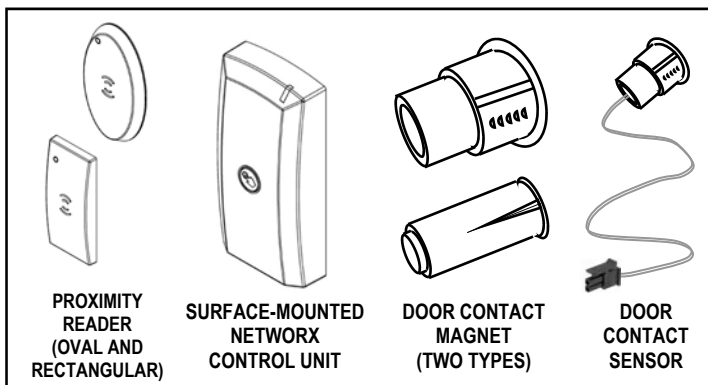
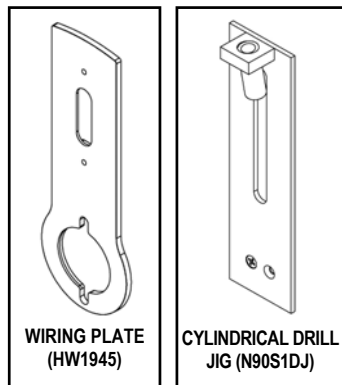

FIG. 1: PARTS OVERVIEW (NOT TO SCALE)
FIG. 2: PARTS OVERVIEW
For reference, the images in Fig. 1 and Fig. 2 display each component (not to scale). Two types of **Proximity Readers** are available: **Oval** and **Rectangular**. The **Surface-Mounted Networkx Control Unit**, two versions of the **Door Contact Magnet** (3/8" or 3/4" diameter) and the **Door Contact Sen-**
- The **Surface-Mounted Networkx Control Unit** (see Fig. 1) is always mounted on the inside ("protected") door surface. Fold and place the template (WI2099) on the inside door edge. Align the template with the **"HORIZONTAL CENTER LINE OF LEVER"** and the 5/8" diameter thru hole as shown on the template. Tape the template in place. Mark the two **Control Unit Mounting Plate** (Fig. 5) holes using the correct holes printed on the template for the correct length of the beveled door (see step 1). Carefully remove the template.